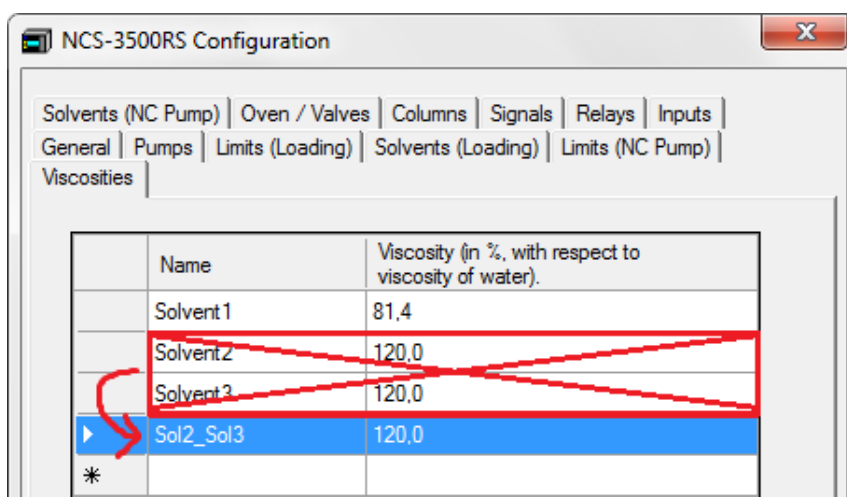

Fig. 55: Entering the viscosity
- ◆ Avoid entries with different names but identical viscosities values. Combine these entries, instead (→ Fig. 55).